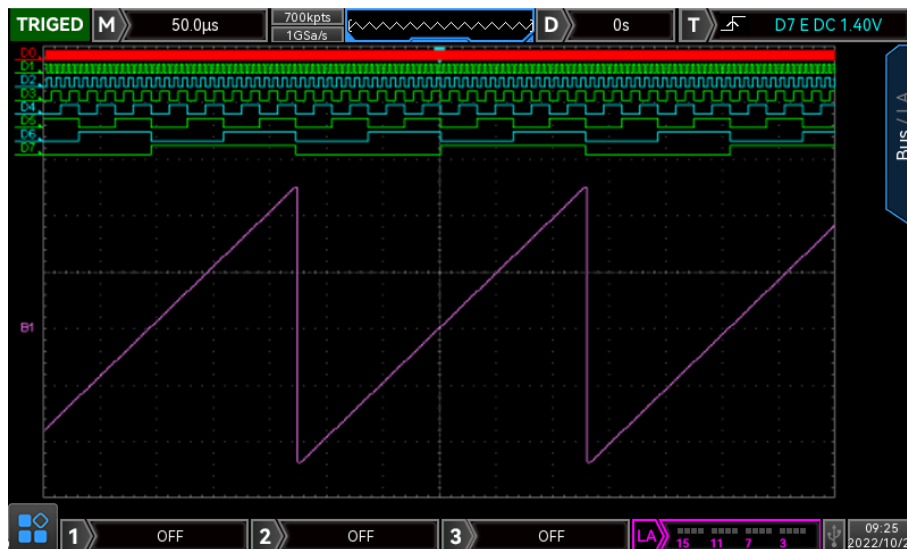

Figure 16-1
- (1) Bus: It can be "BUS1" or "BUS2".
- (2) Bus status: Turn on/off data bus.
- (3) Quick selection: Select the corresponding channel group of BUS1 or BUS2, which can be D0-D7, D8-D15, D0-D15 or None.
- (4) Bit: Select the corresponding channel bit of the bus, which can be D0 ~ D15, CH1 or CH2.
- (5) Bit order: Set the bus bit order, which can select "low to high" (D0 locate in low bit) or "high to low" (D0 locate in high bit).
- (6) Clock: Select any one of channel (D0-D15, CH1, CH2) as the reference clock of bus. Select "NULL" means not set the reference clock.
- (7) Edge type: Set sampling edge type of reference clock, which can be "rising edge, falling edge".
- (8) Display type: Select display format of data bus, which can be hexadecimal, decimal, binary system, ASCII or figure. In figure display mode, the oscilloscope will display the bus data to the level of the corresponding value in a specific way. It is convenient to observe the changing trend of bus value, as shown in Figure 16-1.
- (9) Shake proof: Turn on/off shake proof function.